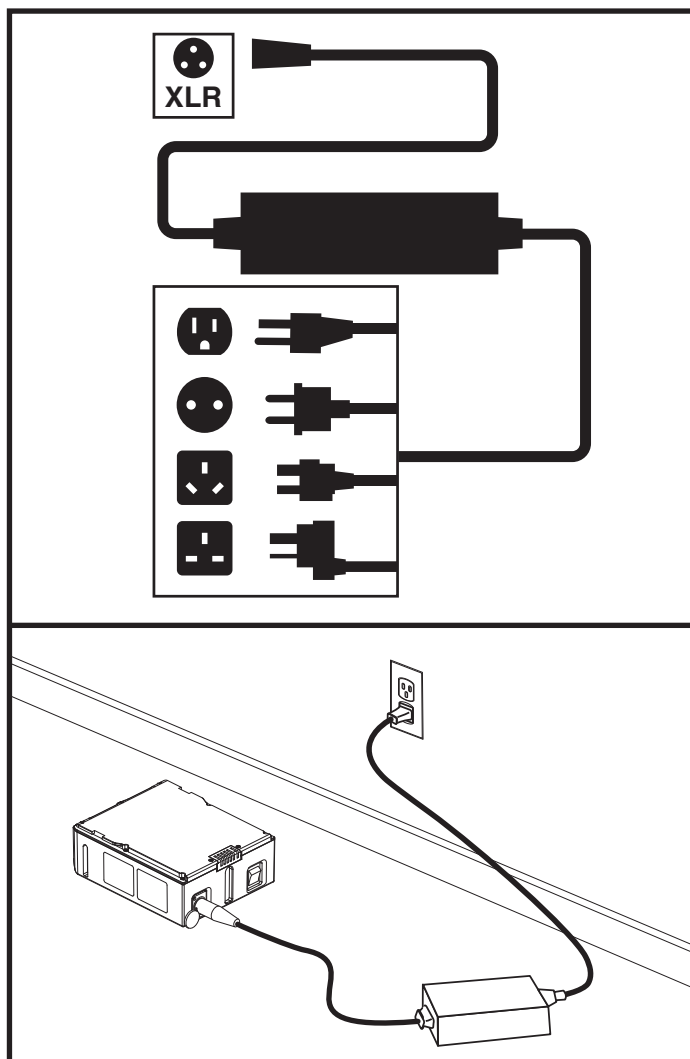

Figure 13. Battery Charging with the Battery Box
4. Plug the off-board charger into the battery box charger port. **See figure 13.**